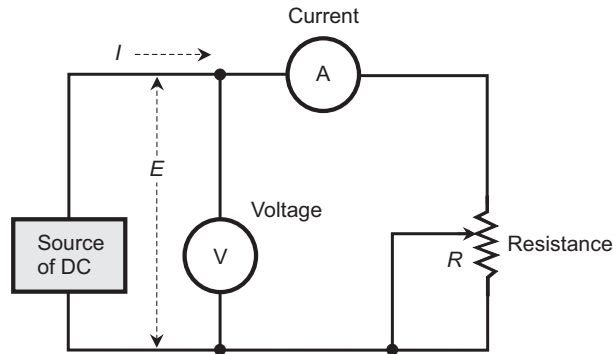

FIGURE 2-7 A circuit for doing DC circuit calculations. The voltage (in volts) is E , the current (in amperes) is I , and the resistance (in ohms) is R .
Figure 2-7 illustrates a generic circuit with a variable direct-current (DC) generator, a voltmeter, some wire, an ammeter, and a potentiometer. Voltage (in volts) is represented as E , current (in amperes) as I , and resistance (in ohms) as R .
To calculate the voltage when you know the current and the resistance in a DC circuit, such as the one shown in Fig. 2-7, use the formula
You can calculate the power P (in watts) in a DC circuit, such as the one shown in Fig. 2-7, using the formula